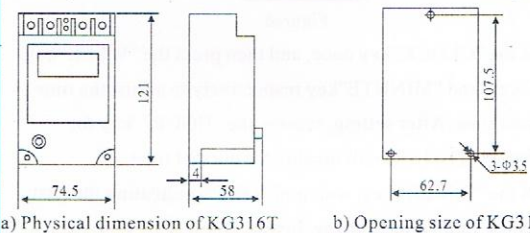

Figure 1 Physical dimension and installation dimension of KG316T
5.1 Physical dimension and installation dimension see Figure 1